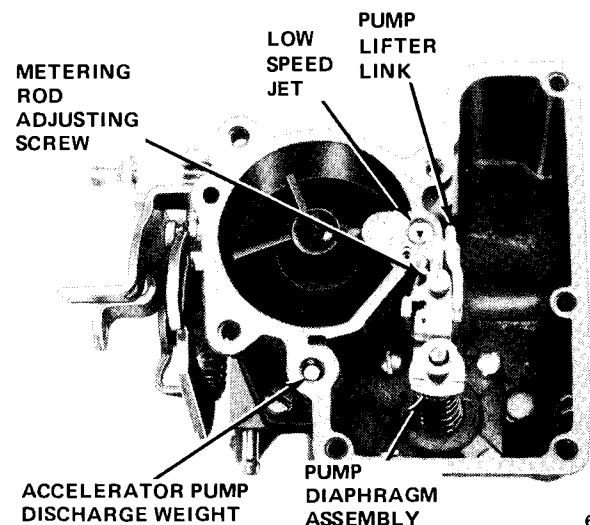

Fig. 4-25 Interior View of Fuel Bowl
(4) Reposition plate if necessary and tighten and stake (or peen) screws in place.
(5) Place new body flange gasket and main body casting on throttle body flange and install attaching screws and tighten evenly.
(6) Install low speed jet and metering rod jet (fig. 4-25).